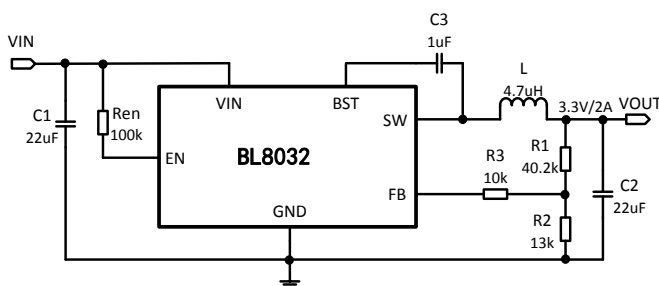
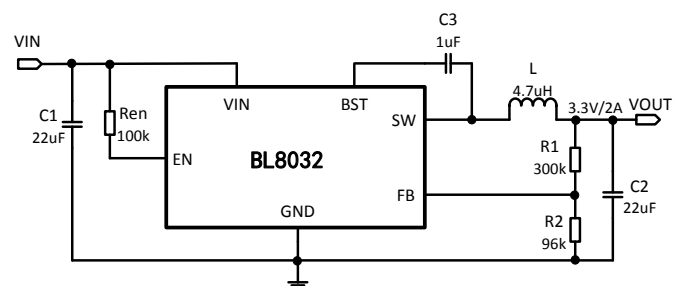

Figure 1.
Figure 2.
2) The resistance R3 in Figure 1 makes the loop more stable. If it isn't used, the resistance R1、R2 should be adjusted(See Figure2.). The value of R1 is recommended to be about 300kΩ.